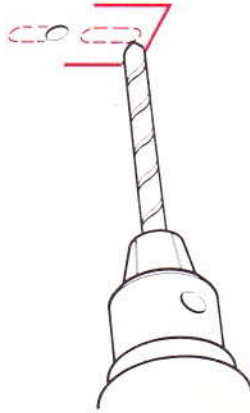

Fig.9
- Finally drill two 8mm (5/16") clearance holes for the clevis fixing bolts at the **lower** end of each elongated hole position (Fig. 9). This allows the belt to be subsequently tightened.